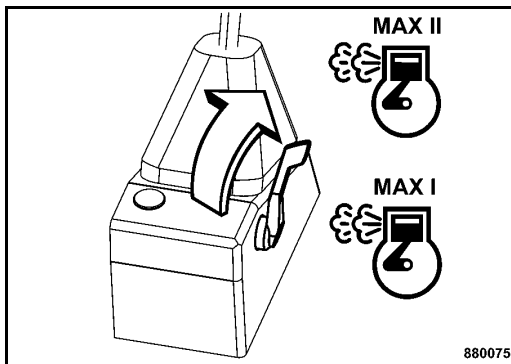

Fig. 62
- Set the throttle lever (Fig. 62) to full load position "Max I" or "MAX II".